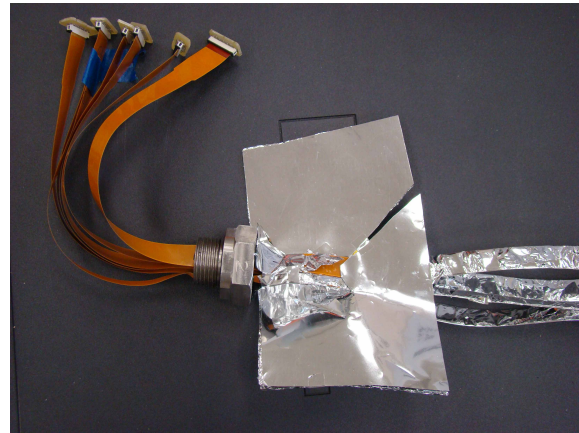

Figure 3: Flexible cable with shorting plugs and ruffle near the vacuum bulkhead
**Unplug a flexible cable and plug it into a shorting plug** (Figure 3). To release the black cable locks, use the nail on your index finger and brace your index finger against your thumb to control the motion. If pull on the locks directly, you will tear them out. Unplug the other flexible cables on the two free controller cards. The narrowest cable (10-pin) does not need a shorting plug.